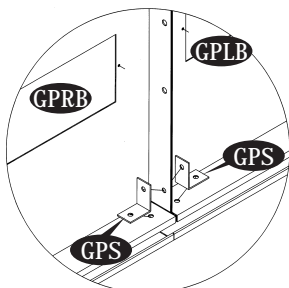

Fig.1
3. Assemble the Gable Panel (GPLB) & (GPRB) together with GPS see fig.1 & 2